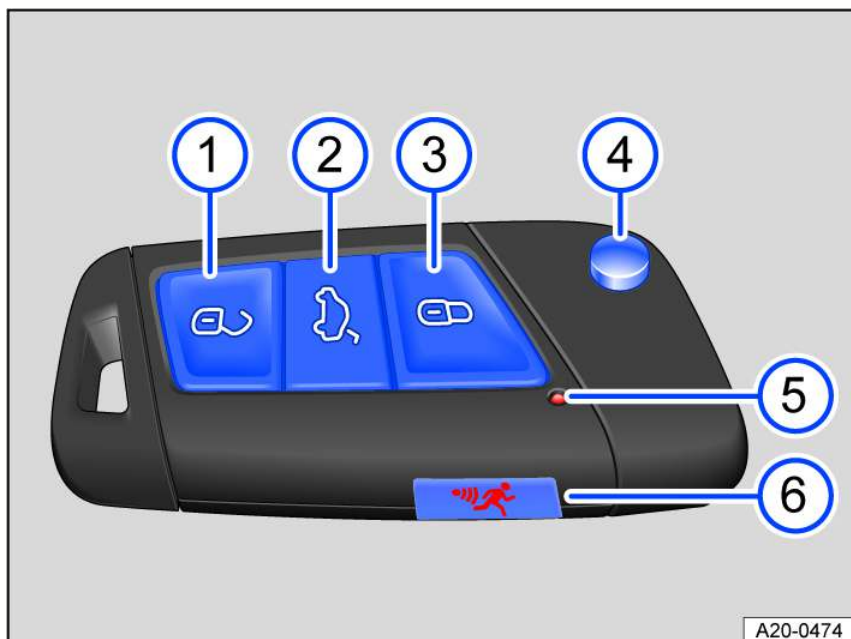
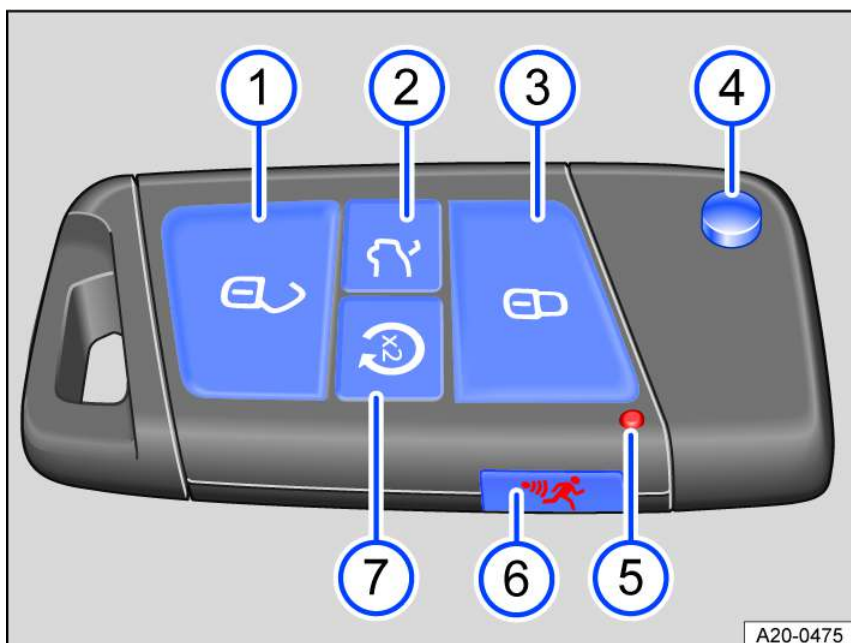

Fig. 40 Vehicle key.
Fig. 41 Vehicle key with remote start relay function.
- To carry out the remote start $\Rightarrow$ *Remote start function*, press button  once *fig. 41* 3 and press button  twice *fig. 40* 7.